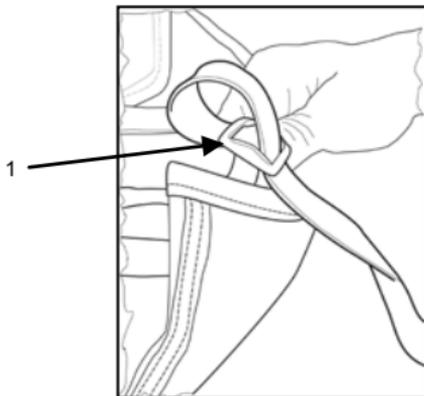

Figure 6. Keeper Buckle.
1. Once the belt is adjusted properly, adjust the waist belt webbing by pulling it tight through its keeper buckle, ensuring the free-running webbing is run back through the keeper buckle (Figure 6, Item 1).
3. Stow the remaining webbing in the keeper buckle (Figure 6, Item 1), and tuck free-running ends of the webbing in the vest panel tunnels.